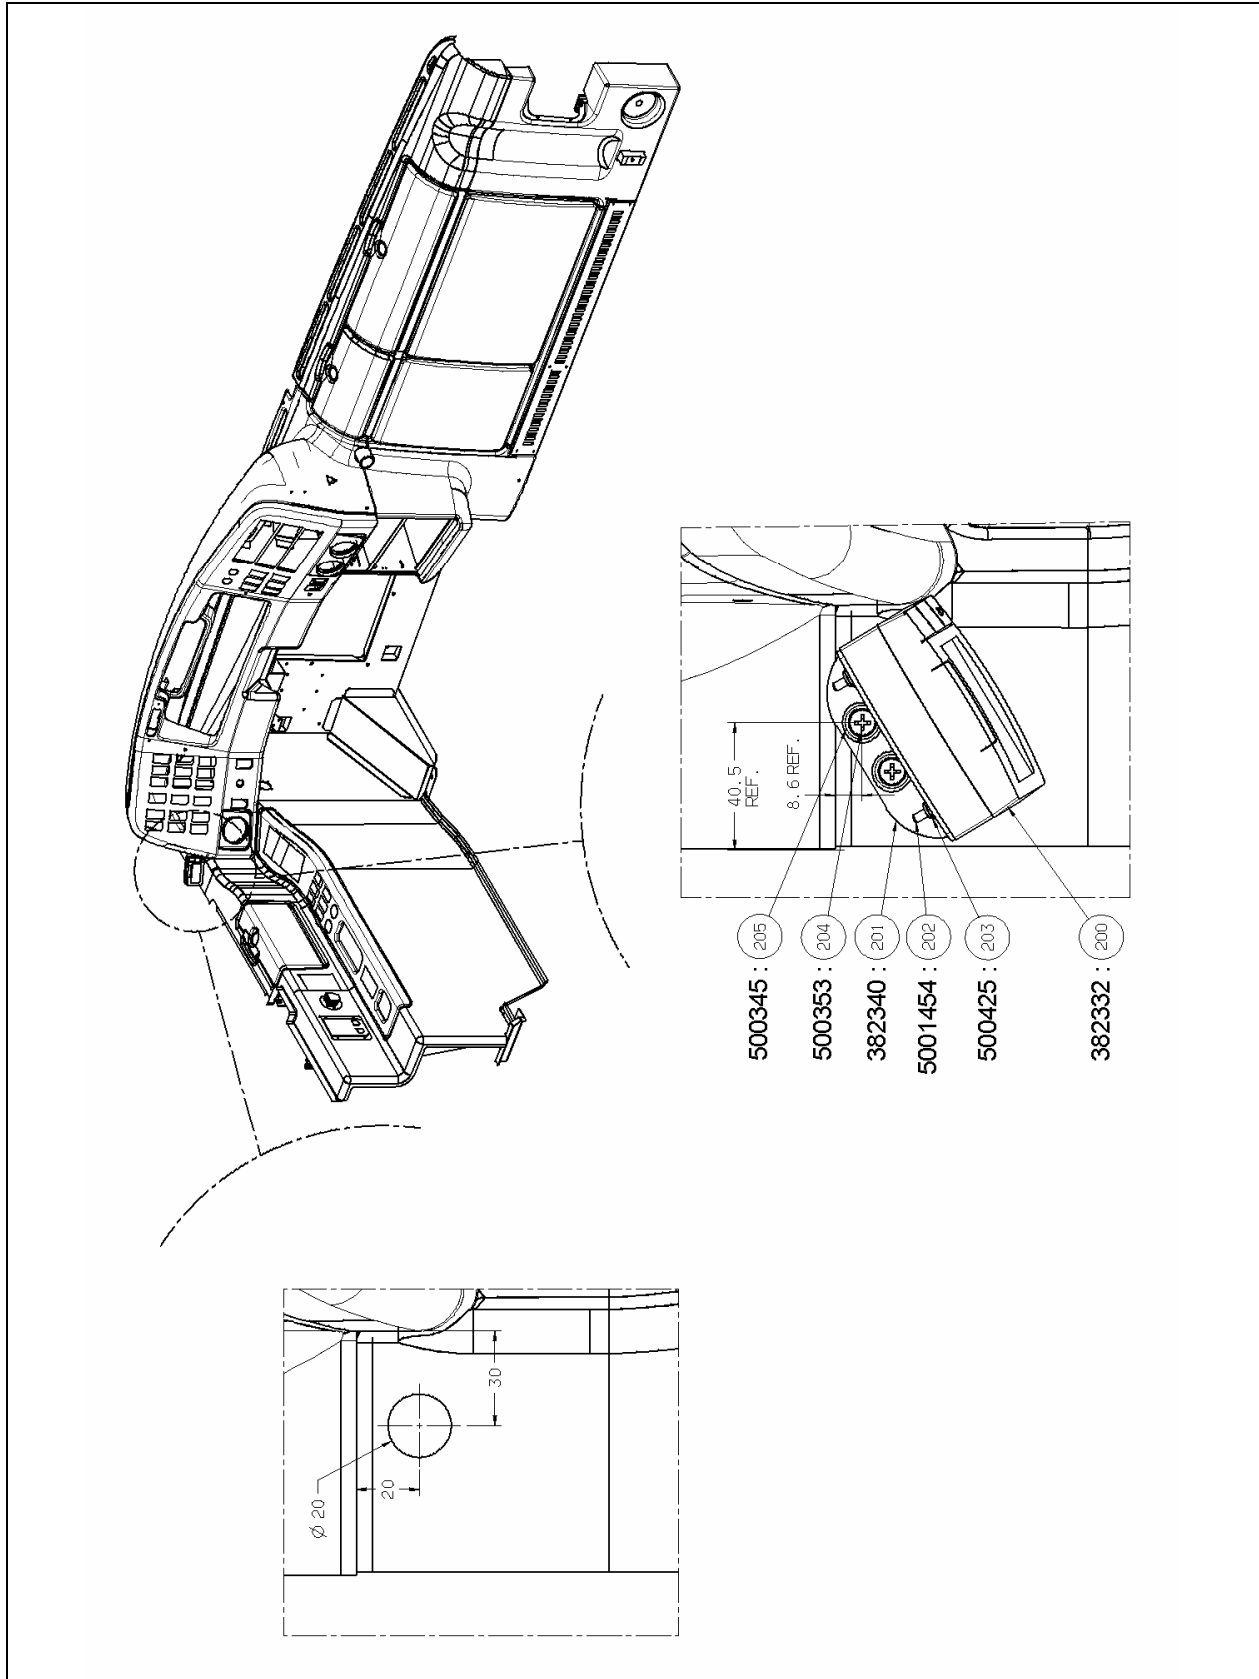

FIGURE 2
12. Drill the hole for the cable as per figure 2. Fix the display c/w its bracket onto the lateral control panel using screws (500353) and finishing washers (500345).